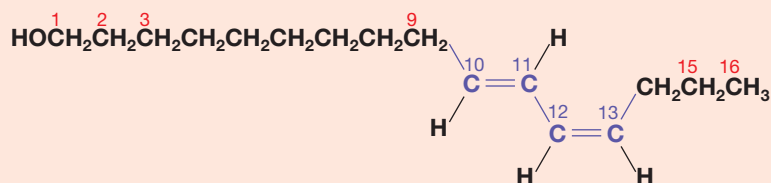

Figure 5.23 ▲
- 18 The female silk moth secretes a pheromone called bombycol (Figure 5.23) which attracts the male silk moth strongly. Chemists are interested in pheromones because they offer an alternative to pesticides for controlling insect pests. By baiting insect traps with pheromones, it is possible to capture large numbers of insects before they mate (Figure 5.24).
- How many different *E/Z* isomers are there with the structural formula shown in Figure 5.23?